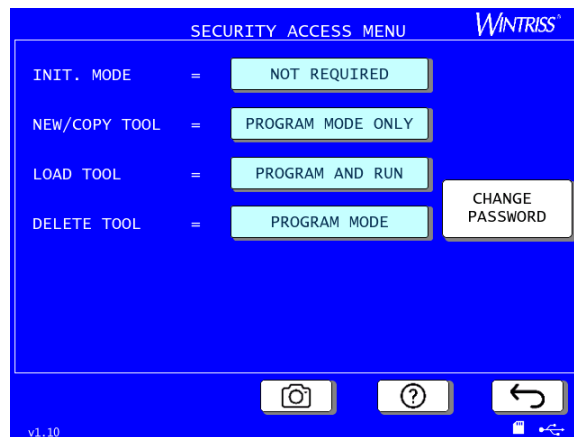
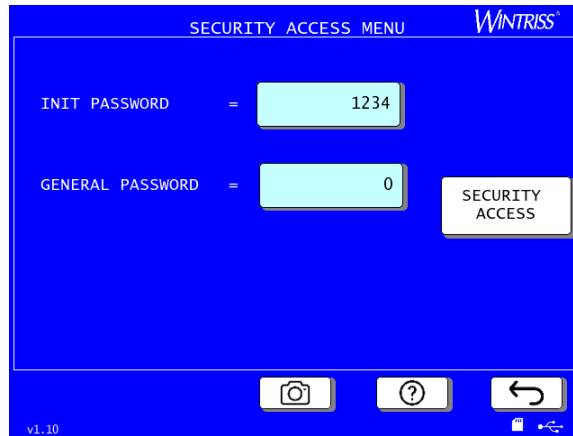

Figure 3-29. Security Access Menu
Figure 3-31. Security Access Set Passwords Menu
The SECURITY ACCESS item on the WPC Initialization menu, Figure 3-2, allows you to control user access to WPC APEX operating modes and settings. You set user access on the Security Access Menu, Figure 3-29.
1. Select SECURITY ACCESS on the Initialization Menu, Figure 3-2, page 114. The Security Access Menu appears, Figure 3-29, above. Note that the factory settings allow all actions to be performed in both Program and Run modes.
1. On the Security Access Menu, Figure 3-29, page 137, press CHANGE PASSWORD to display the Set Passwords Menu, Figure 3-31